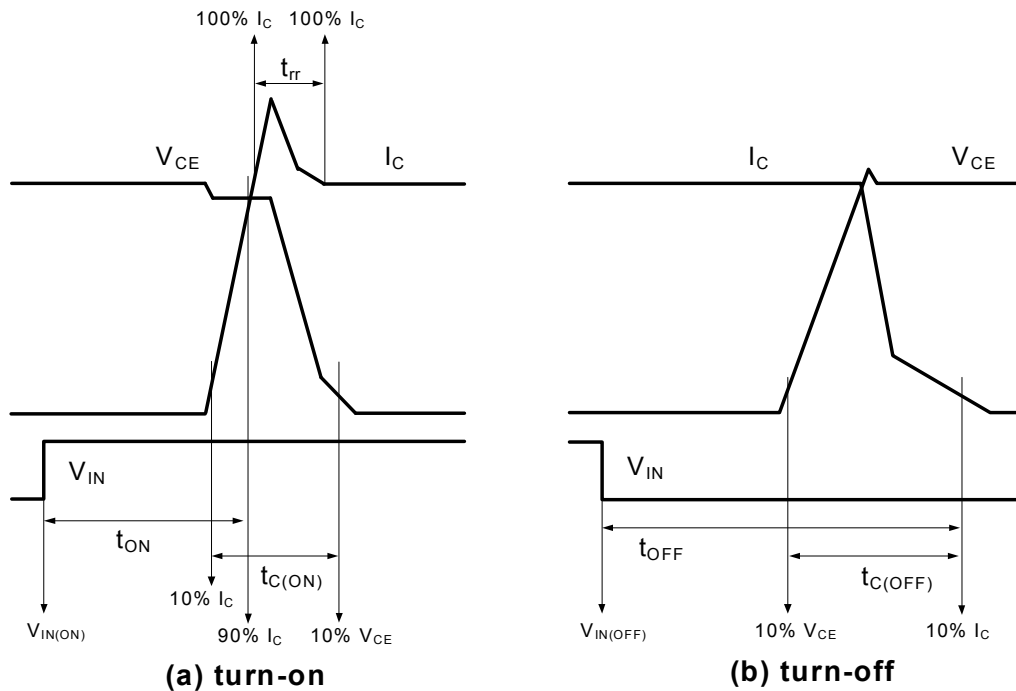

Figure 4. Switching Time Definition
4. tON and tOFF include the propagation delay time of the internal drive IC. tC(ON) and tC(OFF) are the switching time of IGBT itself under the given gate driving condition internally. For the detailed information, please see Figure 4.